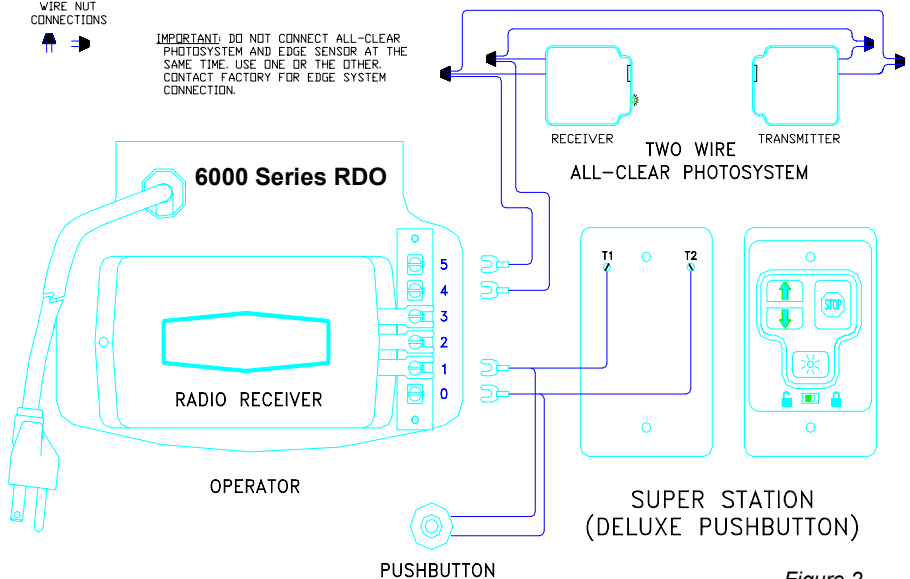

Figure 2
**Refer to Figures 2 through 4 for various wiring options for the All-Clear™ Photosystem. Steps B and C, below, describe the wiring for Series Connection with Receiver First, as illustrated in Figure 2.**
- E. Using two (2) wire nuts (supplied), connect the wire ends at the All-Clear™ Photosystem transmitter to the pigtail wire ends coming out of the transmitter unit. *Although not required, it is recommended to connect the trace wire ends together and the unmarked wire ends together.*
- F. Using two (2) wire nuts (supplied), connect the wire ends at the All-Clear™ Photosystem receiver to the pigtail wire ends coming out of the receiver unit. *Although not required, it is recommended to connect the trace wire ends together and the unmarked wire ends together.*
- C. Connect the interconnect wire pair to the garage door opener terminals marked "B" & "C" (for the 3000 & earlier Series operators), terminals "4" & "5" (for the 6000 Series units). *Although not required, it is suggested that the "trace" be connected to Terminal B (3000 Series operators), or 4 (6000 Series operators). See Wiring Diagram, Figure 2 (shows 6000 Series configuration)*